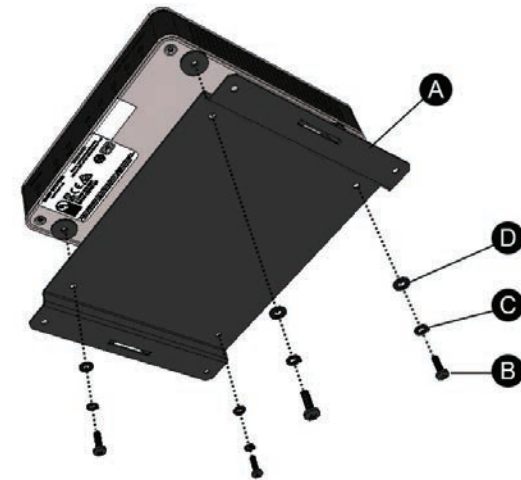

Figure 1 - Mounting Bracket Installation
2. Install the bracket onto the TC-5D with hardware as shown in Figure 1.